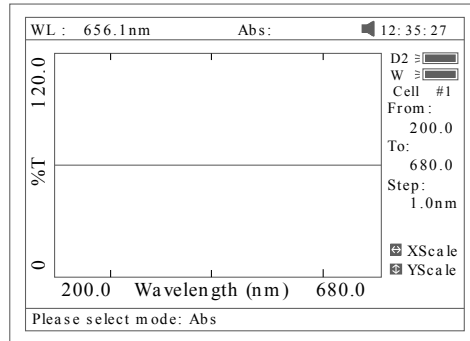

Fig 43
- Press **[F2]** to select the test mode, “Abs”, “%T” or “E” (Fig 43).